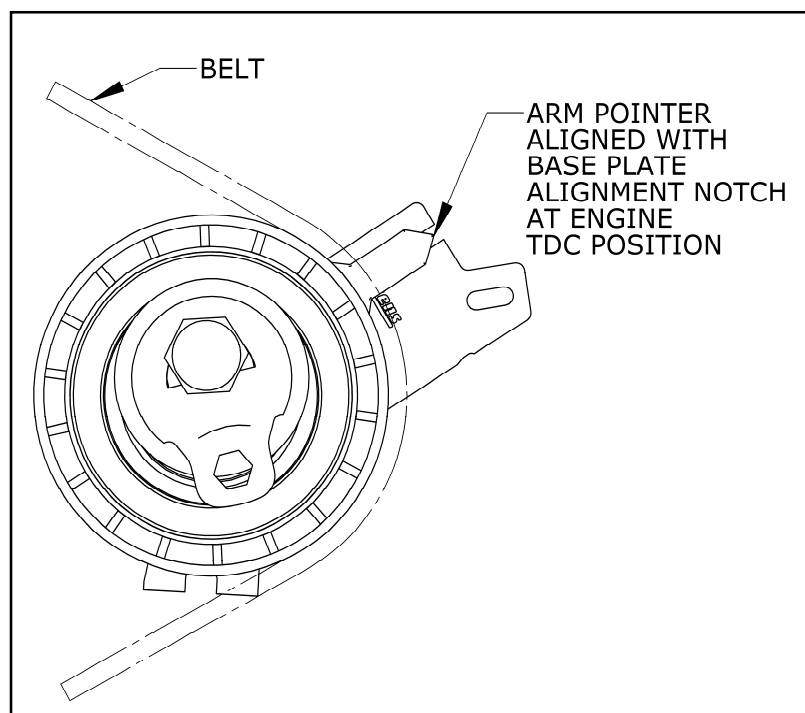

Figure 6: A properly setup tensioner at nominal position.
- If the arm pointer aligns with the notch on the front plate @TDC, the installation is complete. (Fig.6).